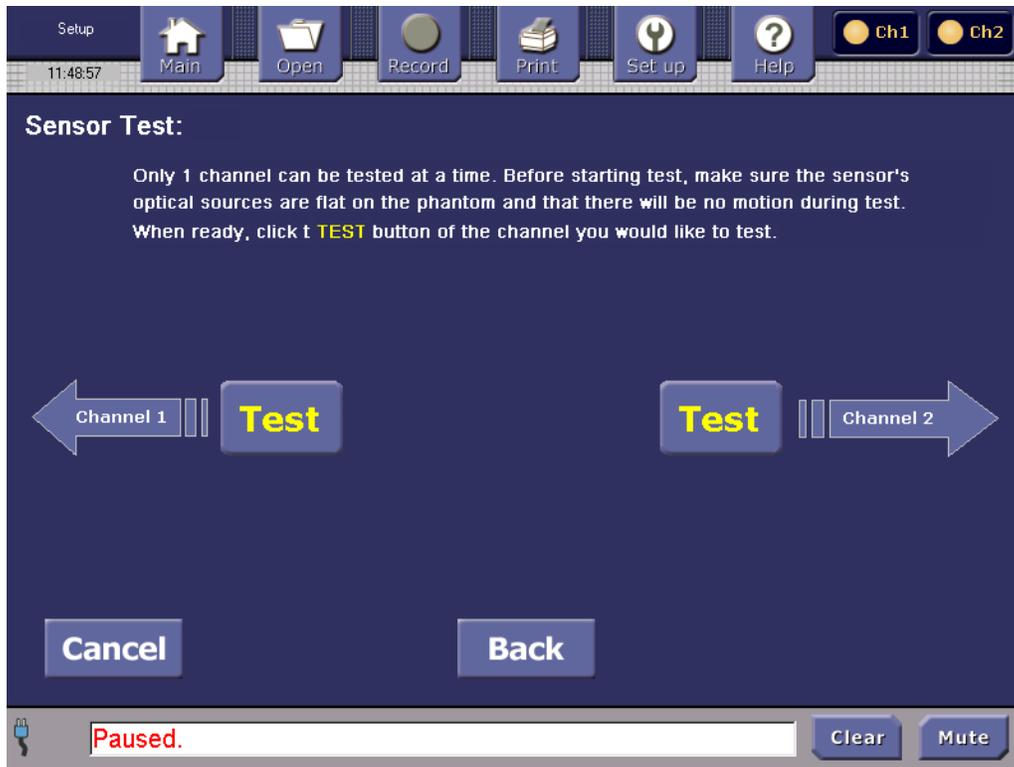

Figure 28. Maintenance Screen, Step 2
Step 2: Figure 28 shows that both channels have sensors attached. If only one channel has a sensor, a test will be available only for that channel.
Step 3: The **Results** page indicates whether the sensor self-test was successful. To perform another sensor self-test, tap the **Back** button. The **Sensor Test** screen, shown in Figure 28, will be displayed.